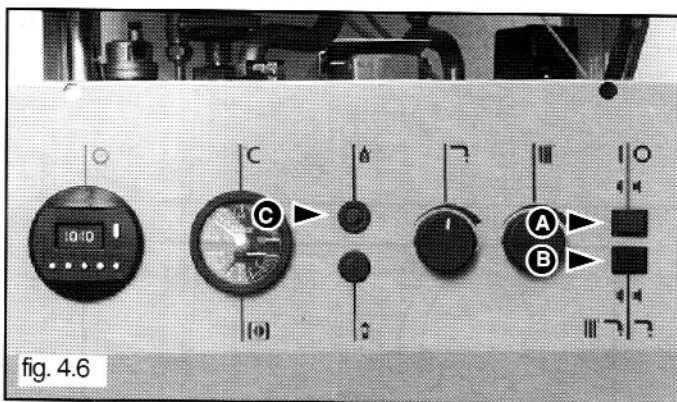

fig. 4.6
then check electrical connections) (see fig. 4.6).
- 2 Select heating mode by setting button "B" to heating mode (see fig. 4.6).
To reset the boiler, depress the reset push button "C" marked with the symbol ϕ (see fig. 4.6).